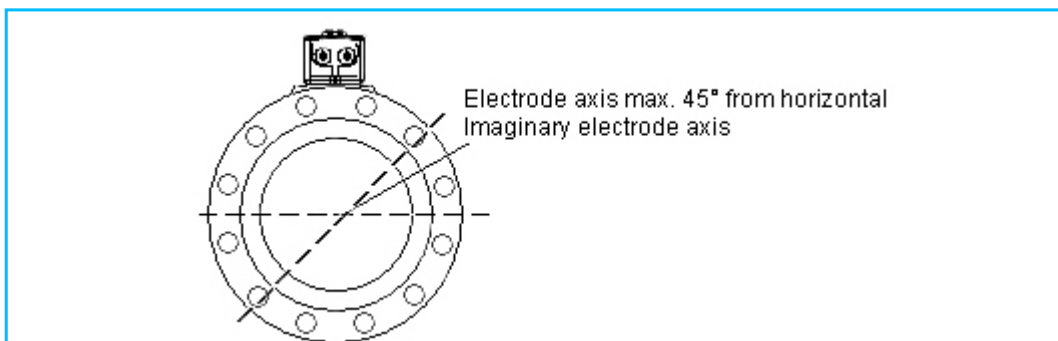

Fig. 5 : Electrode axis max.
- Electrode axis should be horizontal if at all possible or no more that 45° from horizontal (Fig. 5)